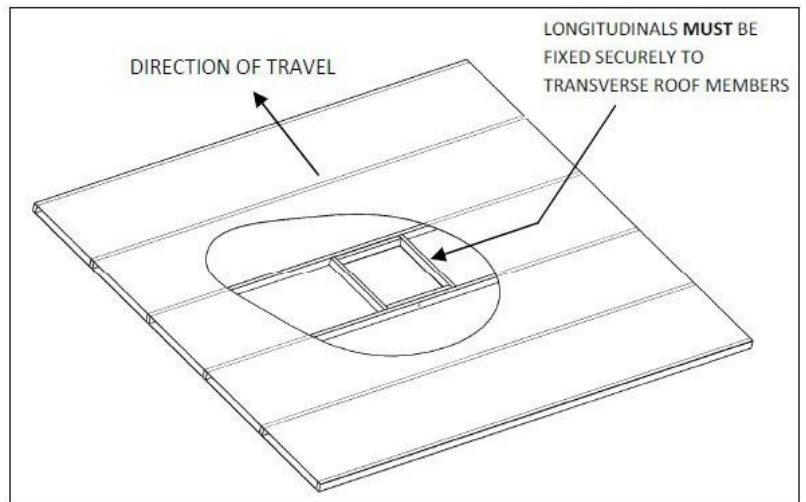
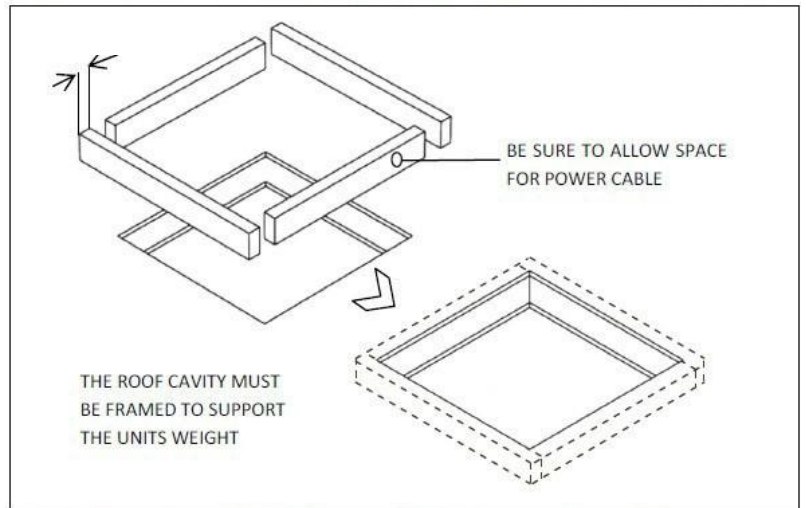

Fig 3: Shows an ideal roof structure with strong longitudinals and a 14' hole boxed
Fig 4: The roof cavity **MUST** be boxed with timber to provide a solid structure
- The square hole in the roof (14" x 14") **MUST** be boxed up with minimum 3/4 inch square timber to provide a structure strong enough to withstand the compression of the installation bolts. This is also to ensure that air is not drawn from the roof cavity (Fig 3 & 4). Remember to leave access for wiring.
- Longitudinals **MUST** be fixed securely to the transverse roof members to transfer load (see Fig 3).
- Hold the clear strain relief cover with bottom facing upward as shown in Figure 3.
- Lay wire into locator slots, making sure the black wire is placed into the polarization slot as shown in Figure 3.
- Press the cable sheath into the integral strain relief slot as shown in Figure 3. Trimming of ground wire and possibly others will be necessary. Wires must not extend beyond the locators as shown in Figure 4!
- While holding the strain relief cover, position the housing's hinge posts into the hinge slots and press down until both lock into place as shown in Figure 4.